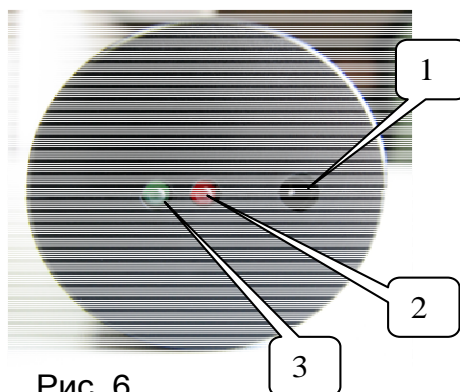

Рис. 6
For charging it is necessary to connect a low-voltage connector of the power adapter to the socket placed underneath the front side of the control panel. (see 1 in Fig.6).
A red LED (see 2 in Fig.6) is lightning while charging (see 2 in Fig.6). When a battery is completely charged, a red LED goes out, and a green LED lights up (see 3 in Fig.6).
- 6). To avoid short-circuiting of leads (see 1 in Fig.6) batteries are to be kept in an isolated case when not used.